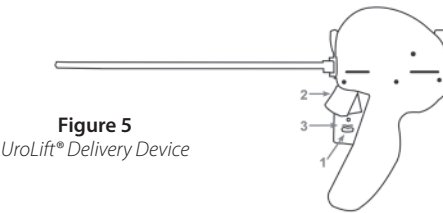

Figure 5
- 3.1 Unlock the Needle Safety Lock (**Step 1, Figure 5**).
- 3.2 Lightly depress the Trigger to deploy the needle (**Step 2, Figure 5**), then release Trigger.
- 3.3 After a brief pause, depress the Retraction Lever (**Step 3, Figure 5**) fully to retract needle and deploy Capsular Tab. Squeeze the Retraction Lever again to ensure completion of retract stroke.
3.7 Press the Urethral Release button toward the telescope (**Step 4, Figure 5**) to deploy Urethral End-Piece and cut the excess suture. After the Urethral Release button is pressed the complete UroLift® Implant has been deployed. No further Implants can be delivered using the same Delivery Device.